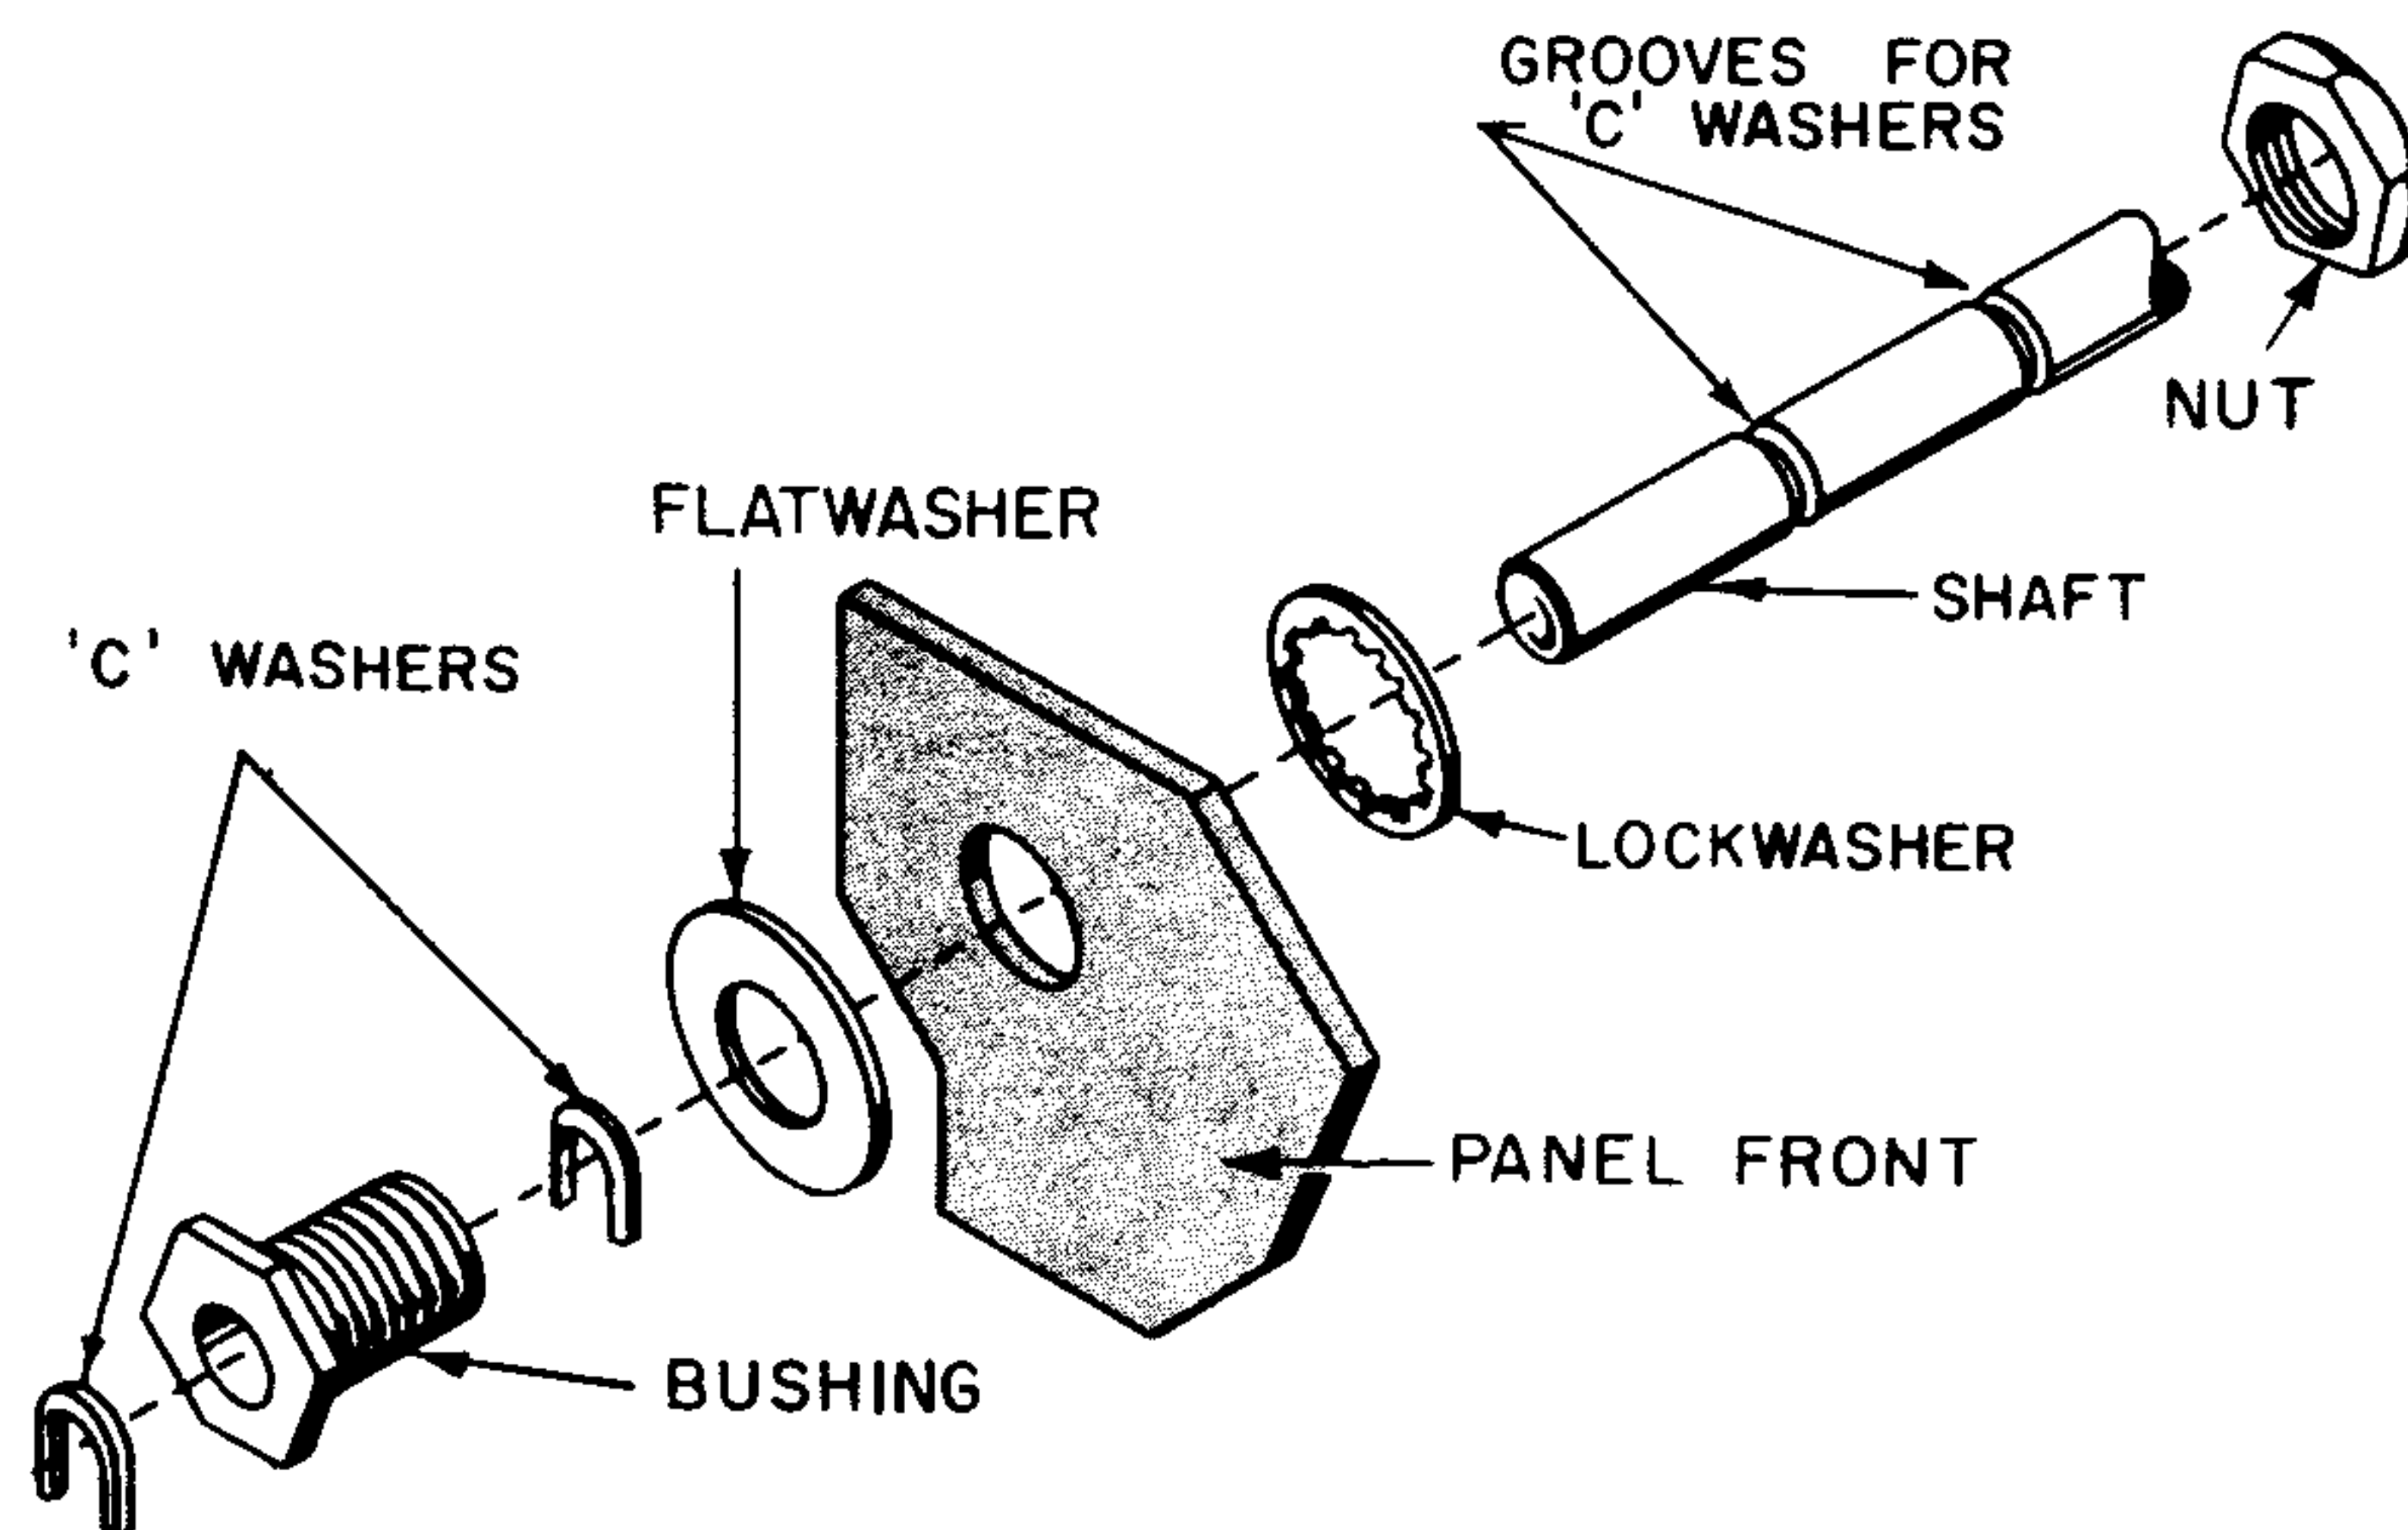

FIGURE 24. ANTENNA CONTROL ASSEMBLY
- ☐ Assemble the ANTENNA CONTROL shaft and bushing as shown in Figure 24. After the "C" washers are in the grooves, crimp them so they don't fall off.